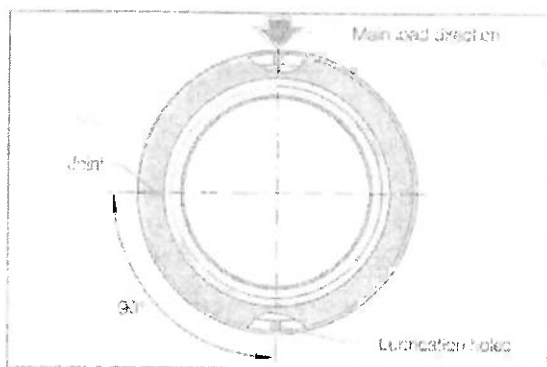

Fig. 6. Joint and main load direction
- In radial spherical plain bearings with a split outer ring, the joint is offset at 90° from the main load direction (Figure 6)